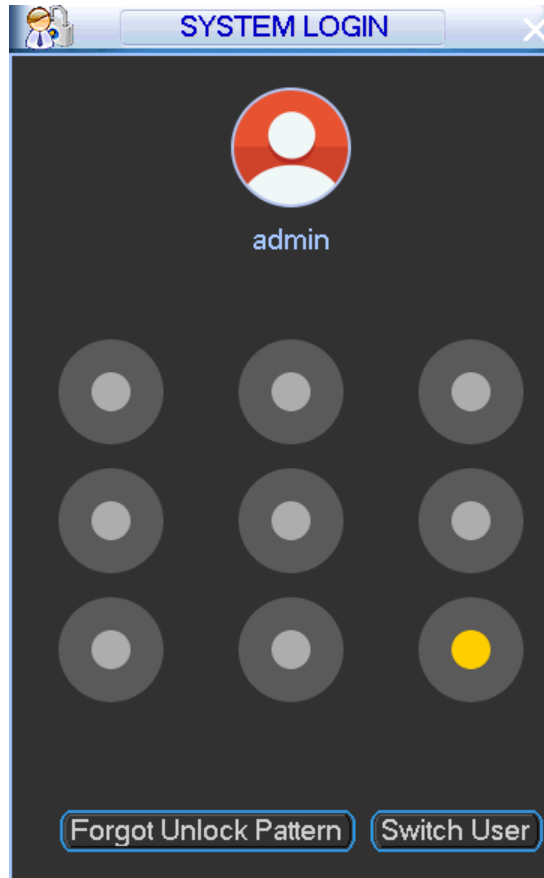
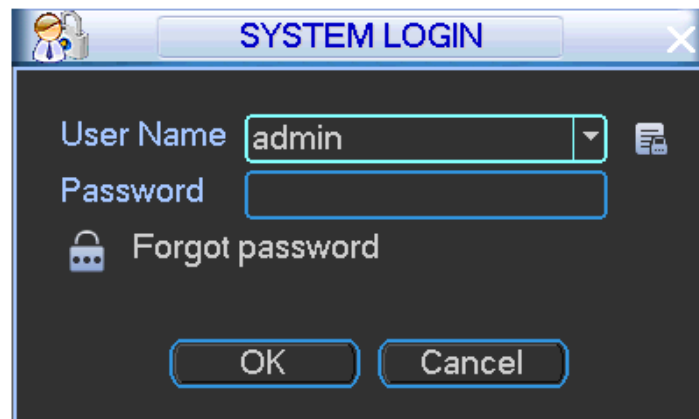

Figure 4-93
Figure 4-94
Step 1 Go to the device login interface. See Figure 4-93 or Figure 4-94.
- If you have set unlock pattern, device displays unlock pattern login interface. See Figure 4-93. Click “Forgot unlock pattern”, device goes to Figure 4-94.
- If you have not set unlock pattern, device displays password interface. See Figure 4-94.